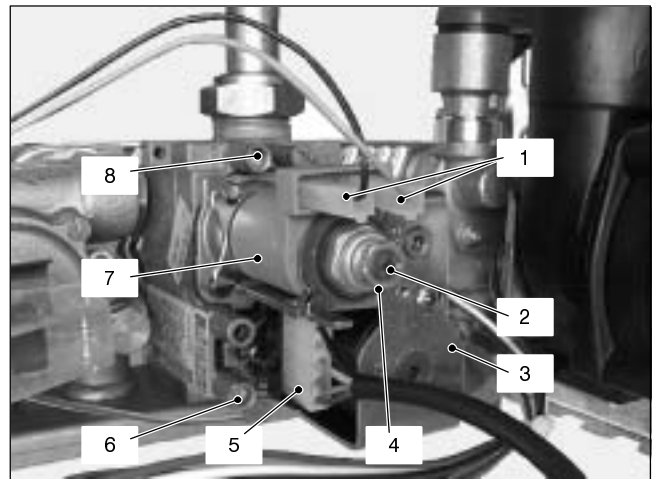

Fig. 45
## 11.2 Nomenclature of the parts (Fig. 45)
- 2 Open the gas valve inlet pressure test point (6 in Fig. 45) at the valve input, connect a suitable pressure gauge and check the gas pressure of the supply network.
- 4 Open the gas valve outlet pressure test point (8 in Fig. 45) and connect the gauge;
- 7 Rotate the maximum gas pressure adjustment (4 in Fig. 45) until you obtain the required pressure (by rotating clockwise the pressure increases).
- 8 Disconnect one of the two connectors (1 in Fig. 45) or, alternatively, remove the service panel as explained in the section 2.3 of this manual and set the dip–switch selector 1 (see section 9.5) to the OFF position.
- 9 Rotate the minimum gas pressure adjustment (2 in Fig. 45) until you obtain the required pressure (by rotating clockwise the pressure increases).